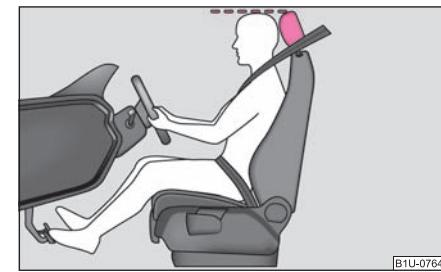

Fig. 107 The correct head restraint adjustment for the driver
- Adjust the head restraint so that the top edge of the head restraint is at the same level as the upper part of your head ⇒ page 98, fig. 107.
- Adjust the head restraints so that the top edge of the head restraints is at the same level as the upper part of your head ⇒ page 98, fig. 107.